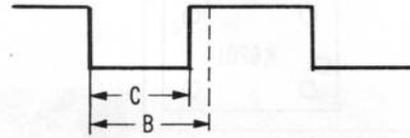

Fig. 50
10. Turn R639 counterclockwise to (C) msec. as shown in Fig. 50.